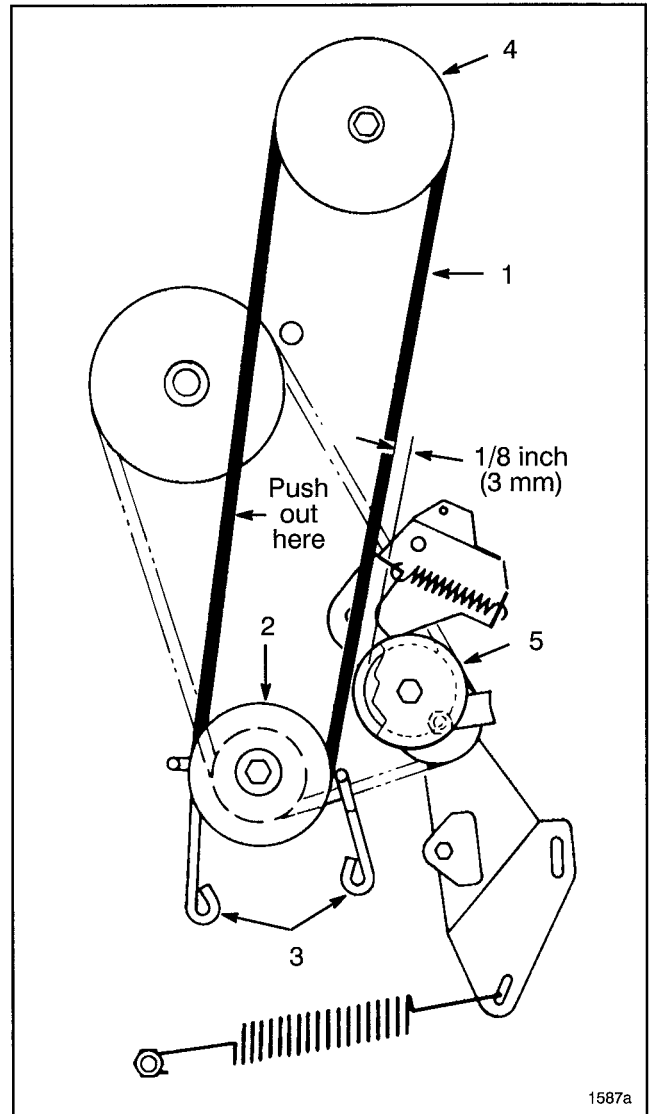

Figure 20
7. Loosen capscrews securing (2) engine pulley belt guides and move guides away from pulley. Remove deck drive belt from engine pulley (Fig. 20).
9. Remove (2) screws securing belt guide to mower housing and remove belt guide. Remove belt from pulley.
12. Pushing out on belt (removing slack), as shown in fig. 20, check clearance between outside of belt and inside of idler pulley (Fig. 20). Clearance should be approximately 1/8 inch (3mm).